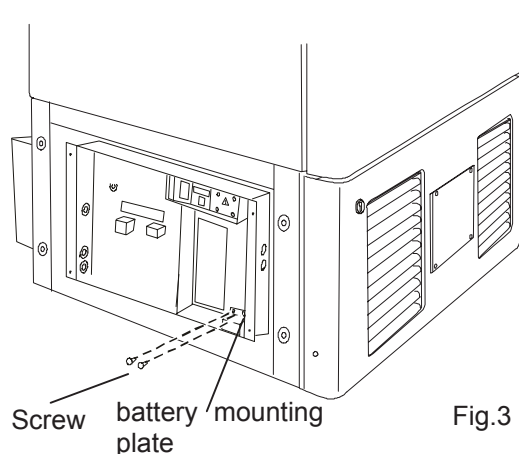

Fig.3
3. Remove 4 screws fixing the electrical box cover with a screw driver. (Fig. 3)